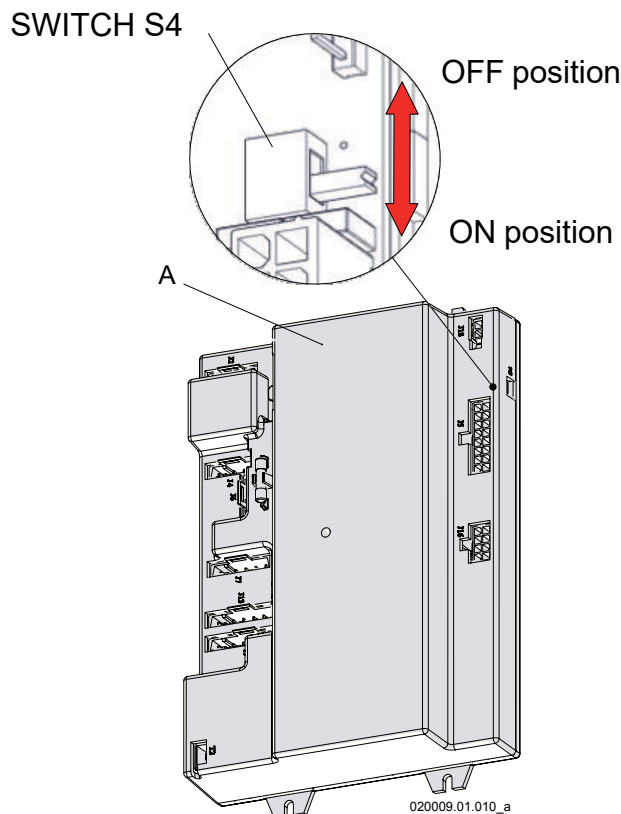

Figure 16-13 - Control board "A"
- 9.- Move "Switch S4" as per Figure 16-13, from OFF position to ON position;